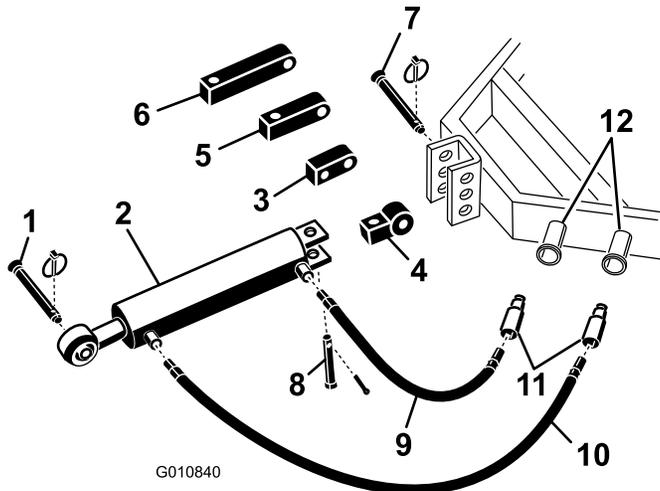

Figure 5
- Secure the connecting link end of the hydraulic top link to the tractor with the pins supplied with the tractor (Figure 5). Position the hydraulic top link so the rod end is toward the aerator. The cylinder ports should be positioned toward the tractor's auxiliary power hydraulics.
Note: If the hydraulic cylinder must be positioned with the ports facing upward, use the rotational block instead of the standard mounting block to reposition the cylinder (Figure 5). A 90 degree hydraulic fitting may be used instead of the rotational block (fittings are not supplied).
(Figure 5). Remove the connecting link from the cylinder.
- B. Install the rotational block to the cylinder with the pins previously removed (Figure 5).
- Connect the 3-1/2 foot long hydraulic hose to the hydraulic top link port which is closest to the aerator Figure 5. Apply Teflon tape or pipe thread sealant to the hose threads to prevent any leaks.
- Connect the 2-1/2 foot long hydraulic hose to the hydraulic top link port which is closest to the tractor (Figure 5). Apply Teflon tape or pipe thread sealant to the hose threads to prevent any leaks.
If the hydraulic cylinder does not reach the aerator mounting bracket, use an extension block instead of the standard mounting block to connect the cylinder to the tractor (Figure 5).
- A. Remove the cotter pin and pin securing the standard connecting link to the cylinder (Figure 5). Remove the connecting link from the cylinder.
- B. Install the required length extension block to the cylinder with the pins previously removed (Figure 5).